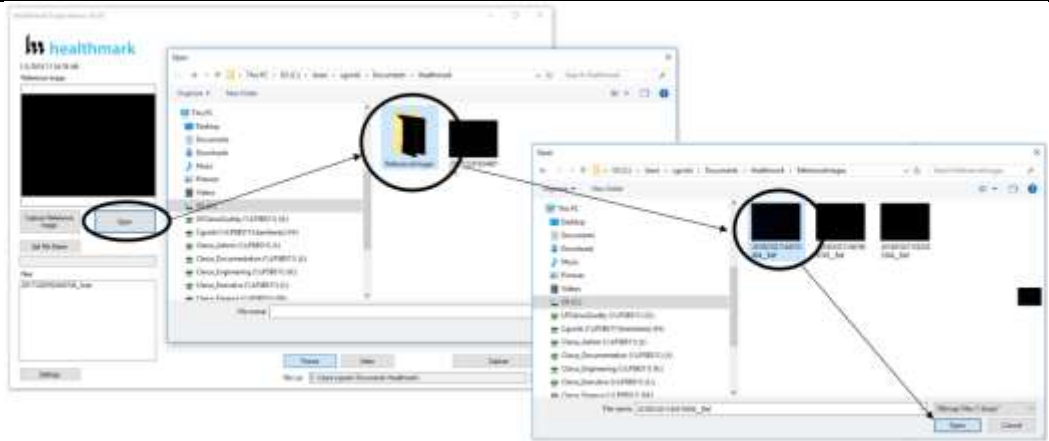

Figure 14
- A. Click the 'Open' Button. **Fig. 14**